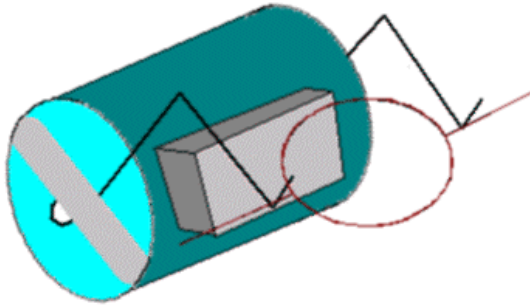

Figure 1. Beakman's Motor.
The projects in this course typically involve building an initial design that we give you, improving the design, and comparing the initial and final results. For the initial design in this project, you will build a motor using the instructions in a video clip from an old television series, called “Beakman’s World”. Try to build this first motor with characteristics that match the motor in the video as closely as possible. When assembled, it should look much like the motor pictured in Figure 1. Here are some basic instructions:
1. Use a single 1.5V battery, or students in JEC 4107/4104 may use a DC power supply set to no more than 1.5V. (You must use a battery for the initial design, Beakman's motor in Figure 1.)